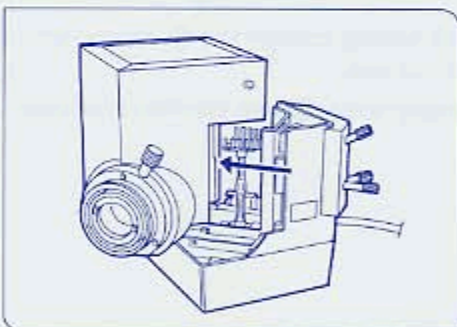

Fig. 14
3. Reattach the socket to the lamp housing by reversing the procedure described in 8-1 and 8-2 above. (Fig. 14)